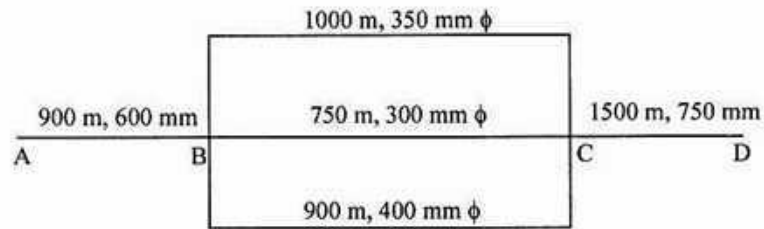

Figure 5
7. (a) The pipes in the system shown in figure 5 are all new cast iron ( $e = 0.25$  mm). With a flow of  $0.60 \text{ m}^3/\text{s}$ , find the head loss from B to C. Given  $\nu = 1.14 \times 10^{-6} \text{ m}^2/\text{s}$ . 15